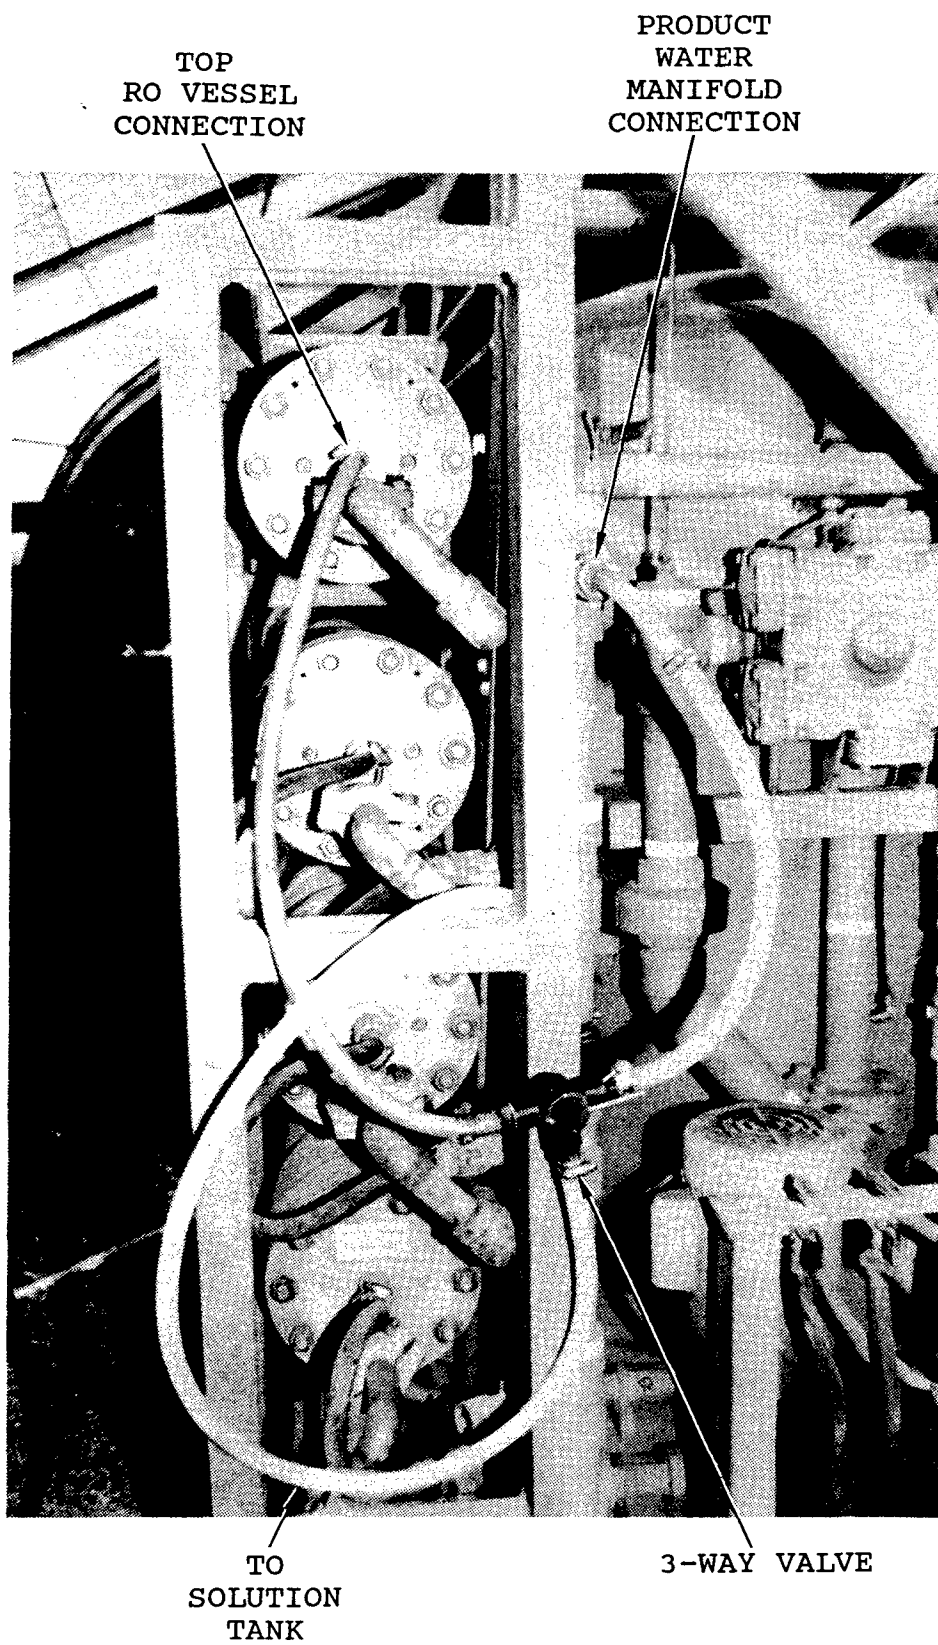

Figure 2-2. Installation of 3-Way Valve.
2-0.1.3 Installing the 3-Way Valve. A 3-way valve (figure 2-1) must be installed prior to ROWPU operation to enable filling of the solution tank with unchlorinated product water. The 3-way valve has two separate pieces of plastic tubing attached. One piece of tubing is attached to one end of the run of the valve and the second piece is attached to the branch of the valve. This valve is placed between the top reverse osmosis (RO) vessel and the product water manifold as shown in figure 2-2.